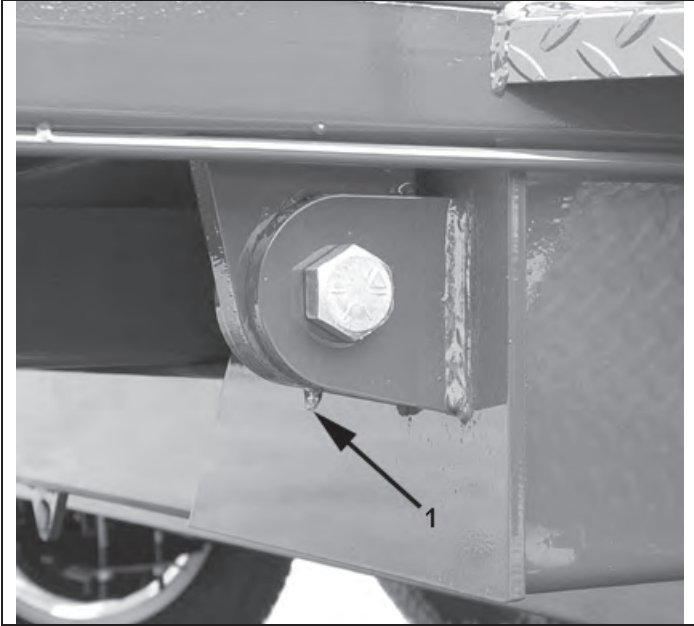

Figure 8-1 - Lubricate Dump Body Pivot Hinges
Pump grease into the each fitting (1) on the dump body pivot hinges and rear door hinges (2) every month. See figures 8-1 and 8-2.